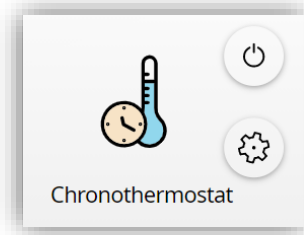

Figure 115. Chronothermostat box
- **Enablement** [0 = Disable; 1 = Enable / 0 = Enable; 1 = Disable]: selects the polarity of the control object "[Ci] Chronothermostat: Enable", which will enable or disable the chronothermostat analogously as from the on-screen switch button of the box (see Figure 115). The box configured as a chronothermostat control looks as follows: